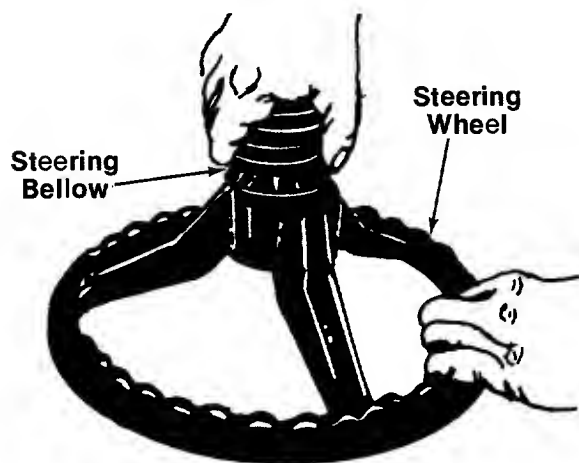

FIGURE 5.—Style B
2. **Style B only:** Attach the plastic steering bellow to the steering wheel as shown in figure 5.